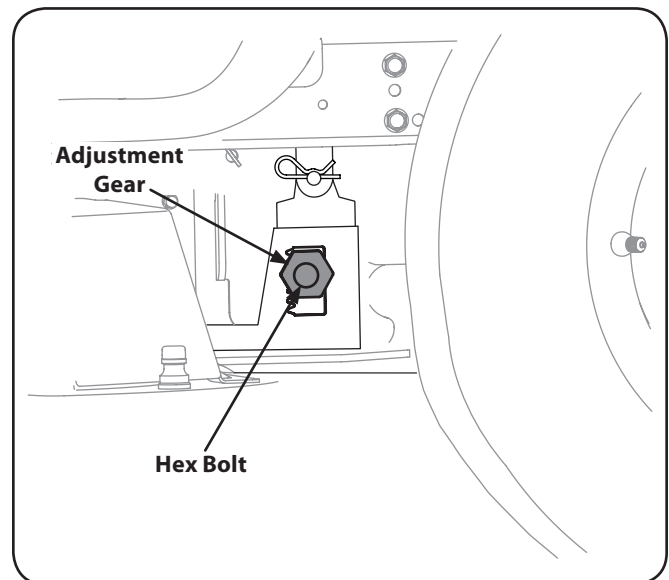

Figure 6-6
3. Loosen, but do NOT remove, the hex bolt on the front left deck hanger link. See Fig. 6-6.
- Using a wrench, raise or lower the left side of the deck by turning the adjustment gears. See Fig. 6-6.
- Loosen, but do NOT remove, the hex bolt on the left and right rear deck hanger brackets. See Fig. 6-6.
- Using a wrench, raise or lower the left and right side of the deck by turning the adjustment gears. See Fig. 6-6.